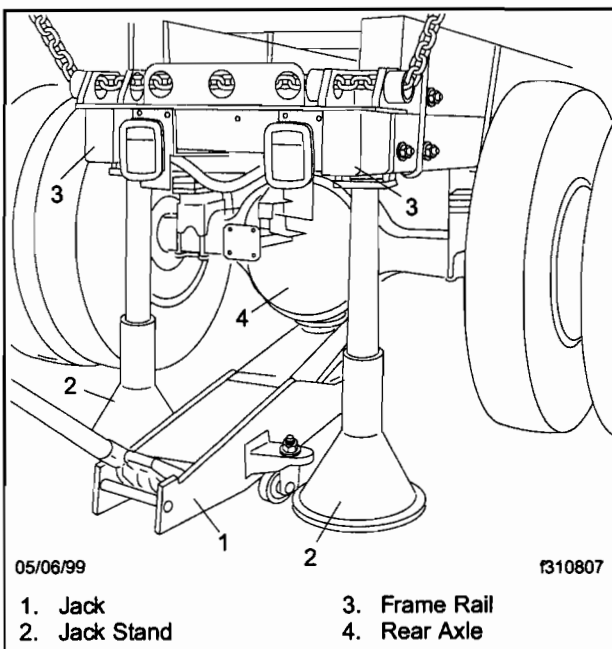

Fig. 6, Jack and Jack Stand Placement
4. Jack up the vehicle under the rear axle, support the rear frame rails with jack stands, then lower the jack to clear the center bearing from the top of the mounting bracket. See **Fig. 6**.